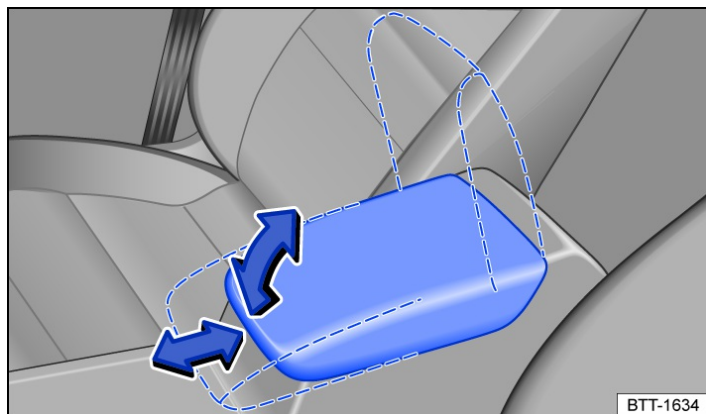

Fig. 1 Front centre armrest.
- To *move it backwards and forwards*: push the centre armrest in the direction of the arrow all the way forwards → Fig. 1 or all the way backwards.